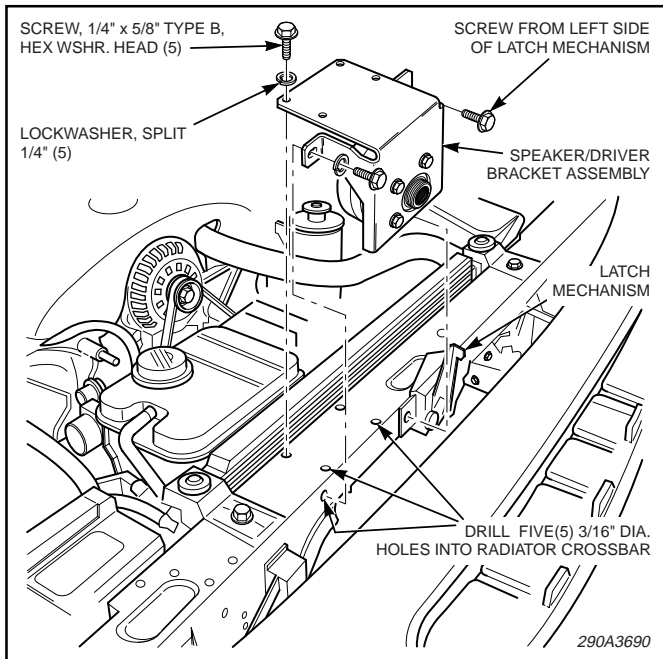

Figure 3.
5. See figure 3. Remove and retain the screw on the left side of the hood latch mechanism. Locate the top of the radiator crossbar, to the left (passenger's side) of the hood latch. Position the speaker driver/bracket assembly on the radiator crossbar and align the mounting ear hole with the previously removed screw's hole. Install the previously removed screw and tighten securely.
8. To complete the mounting of speaker bracket, secure the speaker driver/bracket assembly in position using the 1/4" x 5/8" thread-forming screws and split lockwashers. See figure 3.